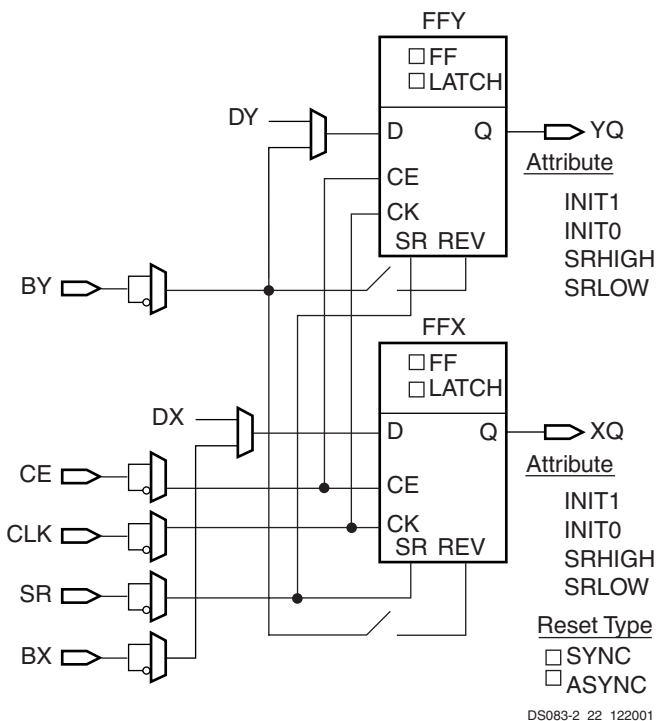

Figure 26: Register / Latch Configuration in a Slice
In addition to clock (CK) and clock enable (CE) signals, each slice has set and reset signals (SR and BY slice inputs). SR forces the storage element into the state specified by the attribute SRHIGH or SRLOW. SRHIGH forces a logic 1 when SR is asserted. SRLOW forces a logic 0. When SR is used, an optional second input (BY) forces the storage element into the opposite state via the REV pin. The reset condition is predominant over the set condition. (See Figure 26.)